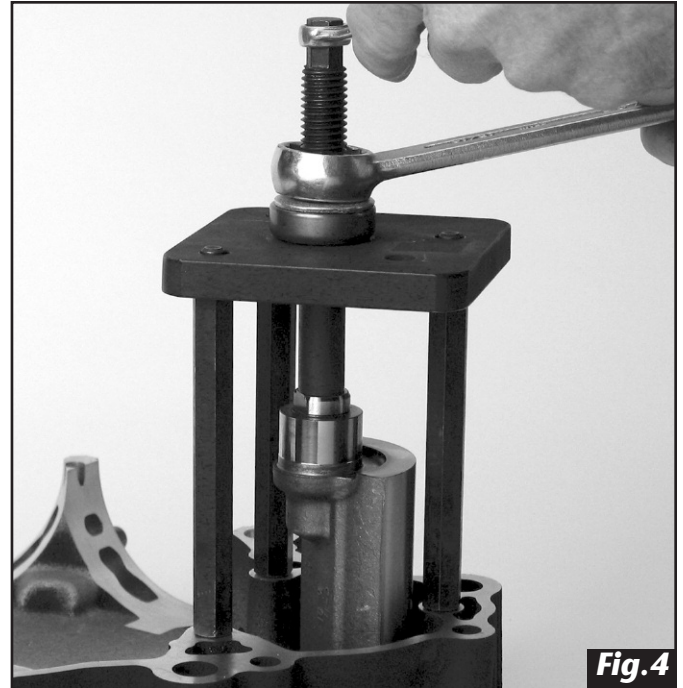

Fig.4
4. Thread all 3 standoff shafts into threaded three holes of left case around the front or rear balancer shaft. Tighten each to 5 ft-lbs. of torque using a 1/2" deep socket. See FIG. 4.
6. Lube threads on No. 960-2 remover screw. Insert screw, small threaded end thru plate No.960-1 and into end of balancer shaft as shown in FIG. 4. Torque to no more then about 2 ft-lbs. (just hand tight.)
8. Thread nut down until it stops at washer, then, with a 15/16" wrench, turn nut at the same time holding remover screw with a 7/16" wrench. Continue to turn nut until balancer shaft and bearing is pulled from case. See FIG. 4.